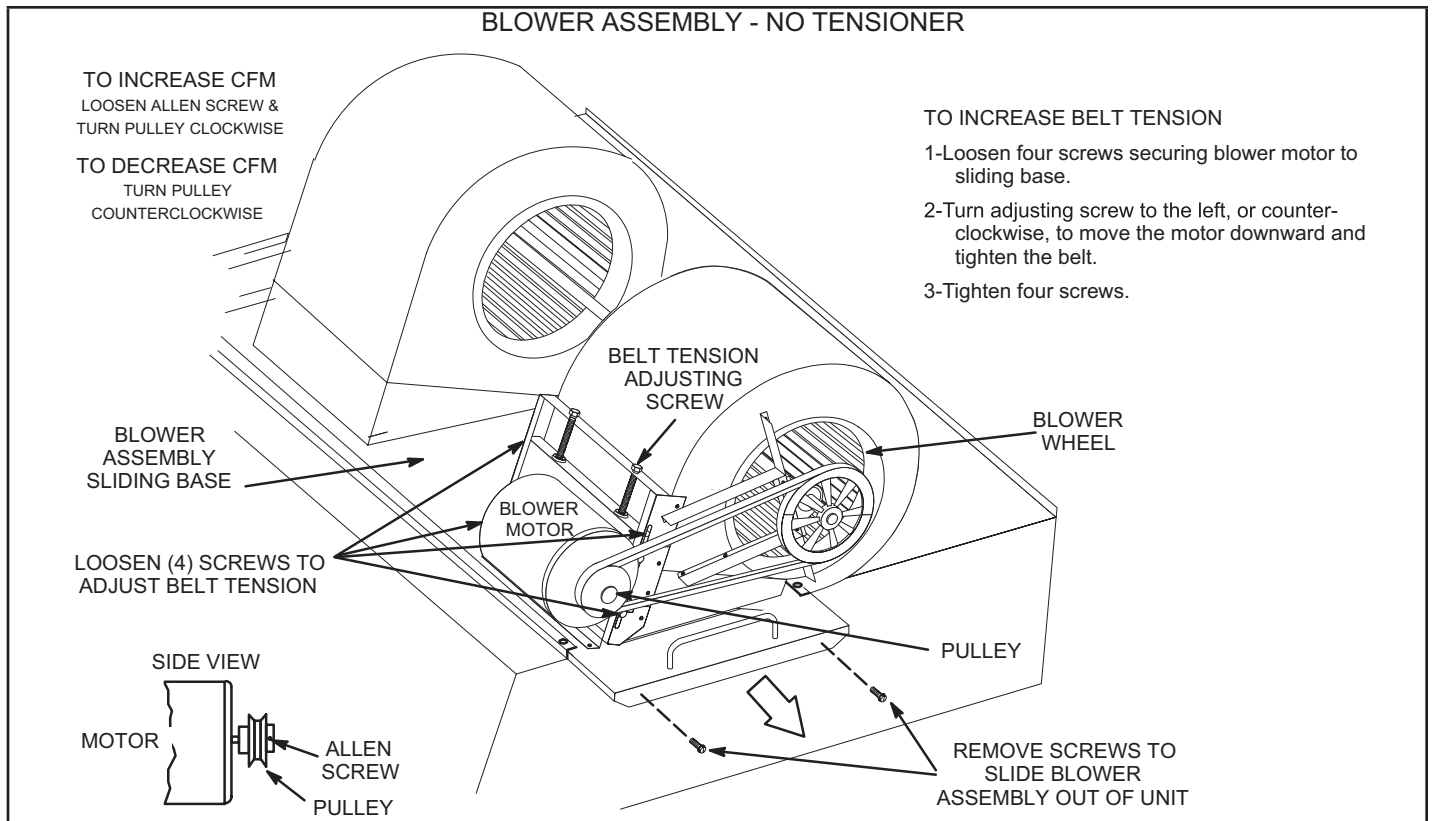

FIGURE 21
Remove screws on either side of blower assembly sliding base. See FIGURE 21.
The blower RPM can be adjusted at the motor pulley. Loosen Allen screw and turn adjustable pulley clockwise to increase CFM. Turn counterclockwise to decrease CFM. See FIGURE 21. Do not exceed minimum and maximum number of pulley turns as shown in TABLE 3.
- 1 - Loosen four screws securing blower motor to sliding base. See FIGURE 21.